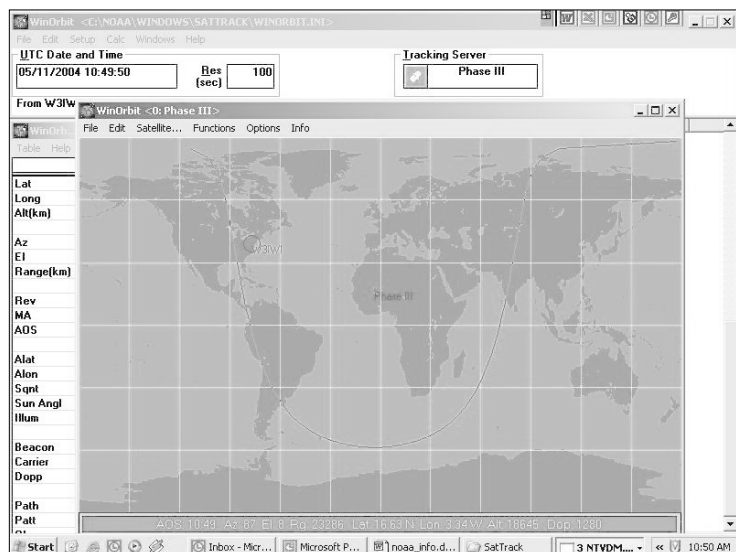
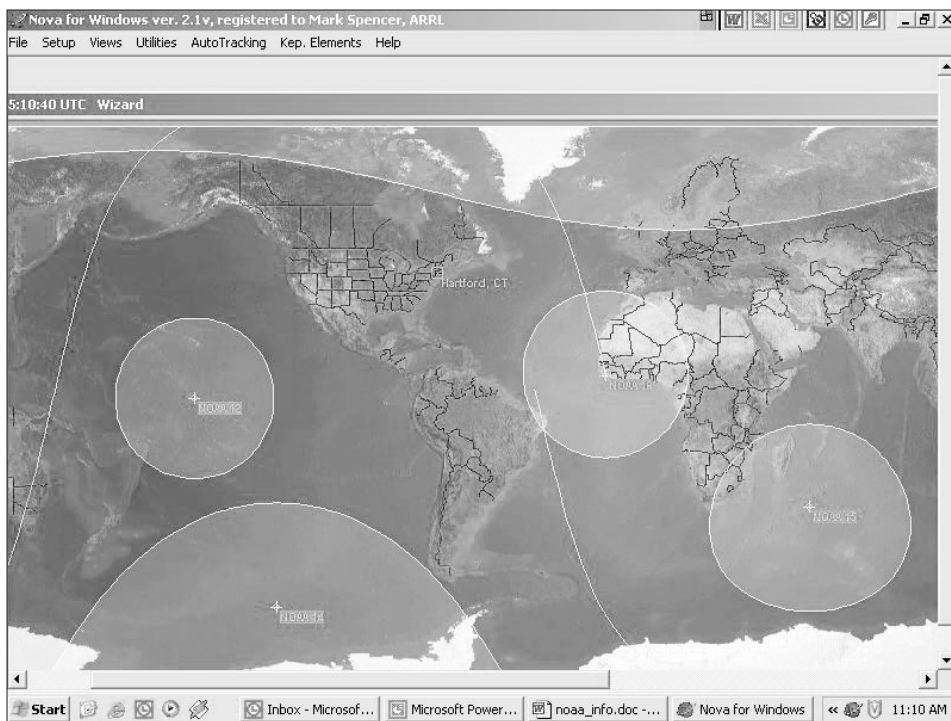

Figure 1: The typical display of orbital predication software. This is a freeware software package showing the orbit and position of a satellite.
Figure 2: The display of satellite positions and orbits using a program called NOVA.
- Noise figure 2 meters: approx. 0.5 db
Once the system is set up, just let it run. It does not require on-line access, the software and computer operate stand-alone and the computer continuously calculates the selected satellite positions and updates the computer display. Figure 1 is an example of the type of display that you can expect from free satellite prediction software. The software that I recommend is called NOVA, but it costs around \$50. The graphic display is more detailed and there are other valuable tracking features. Figure 2 is an example of the type of display using NOVA.